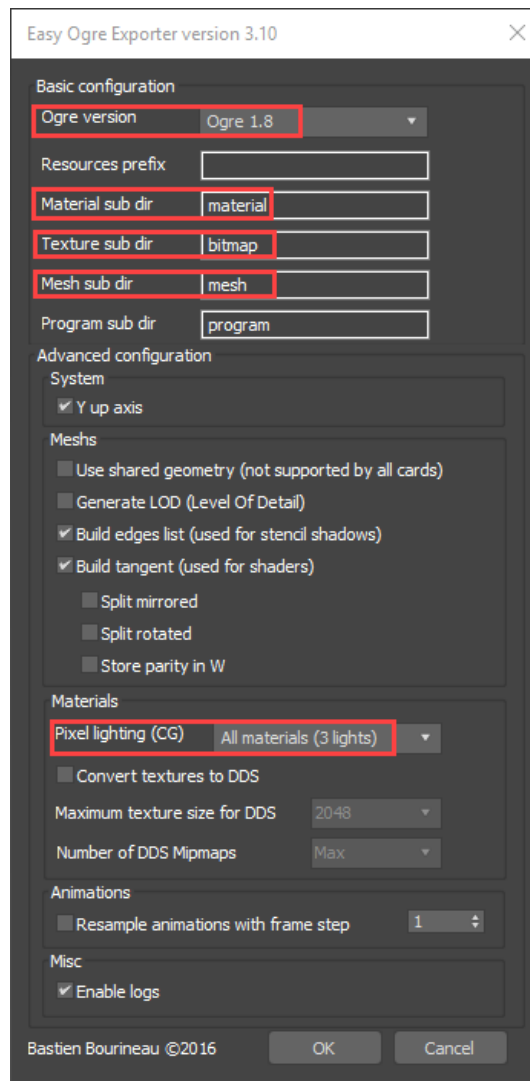

Figure 30.15. **Easy Ogre Exporter** dialog window
After that the dialog window of **Easy Ogre Exporter** appears, see Figure 30.15. Set **Basic configuration / Ogre version** to **Ogre 1.8**. The present version of **UM Scene** supports the **Ogre 1.8** only! You can leave default values in the **Material sub dir**, **Texture sub dir** and **Mesh sub dir** fields as it is shown in Figure 30.15. Materials will be saved as ***.material** file; meshes as ***.mesh** files. In the **Materials / Pixel lighting (CG)** field select **All materials (3 lights)**. All the rest fields set according to Figure 30.15.